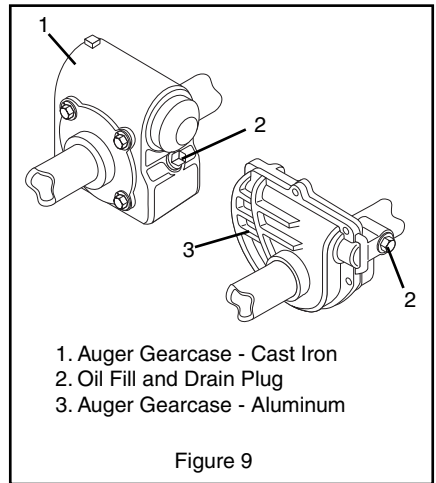

Figure 9
1. Remove filler plug (Figure 9). Lubricant must be at least up to bottom of lubricant filler hole with unit resting on a level surface.